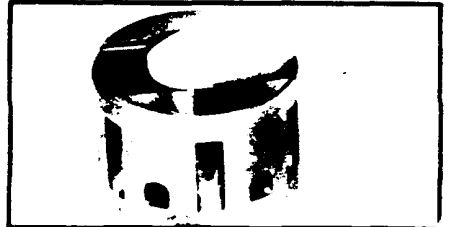

Figure 43
12. Insert new drive pin (10) if it was removed, into the commutator (9) drive pin hole until it bottoms out. SEE FIGURE 43.